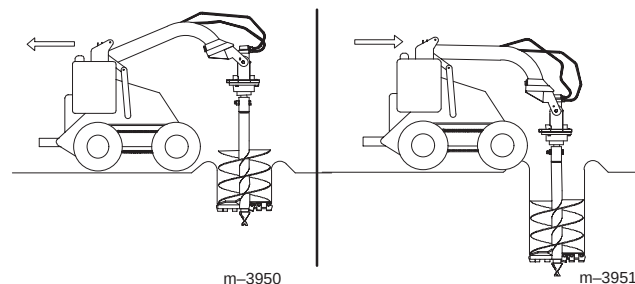

Figure 7
- Lower the auger slowly as the soil is loosened. As you dig deeper, move the traction unit backward or forward as required to keep the hole vertical (Fig. 7).